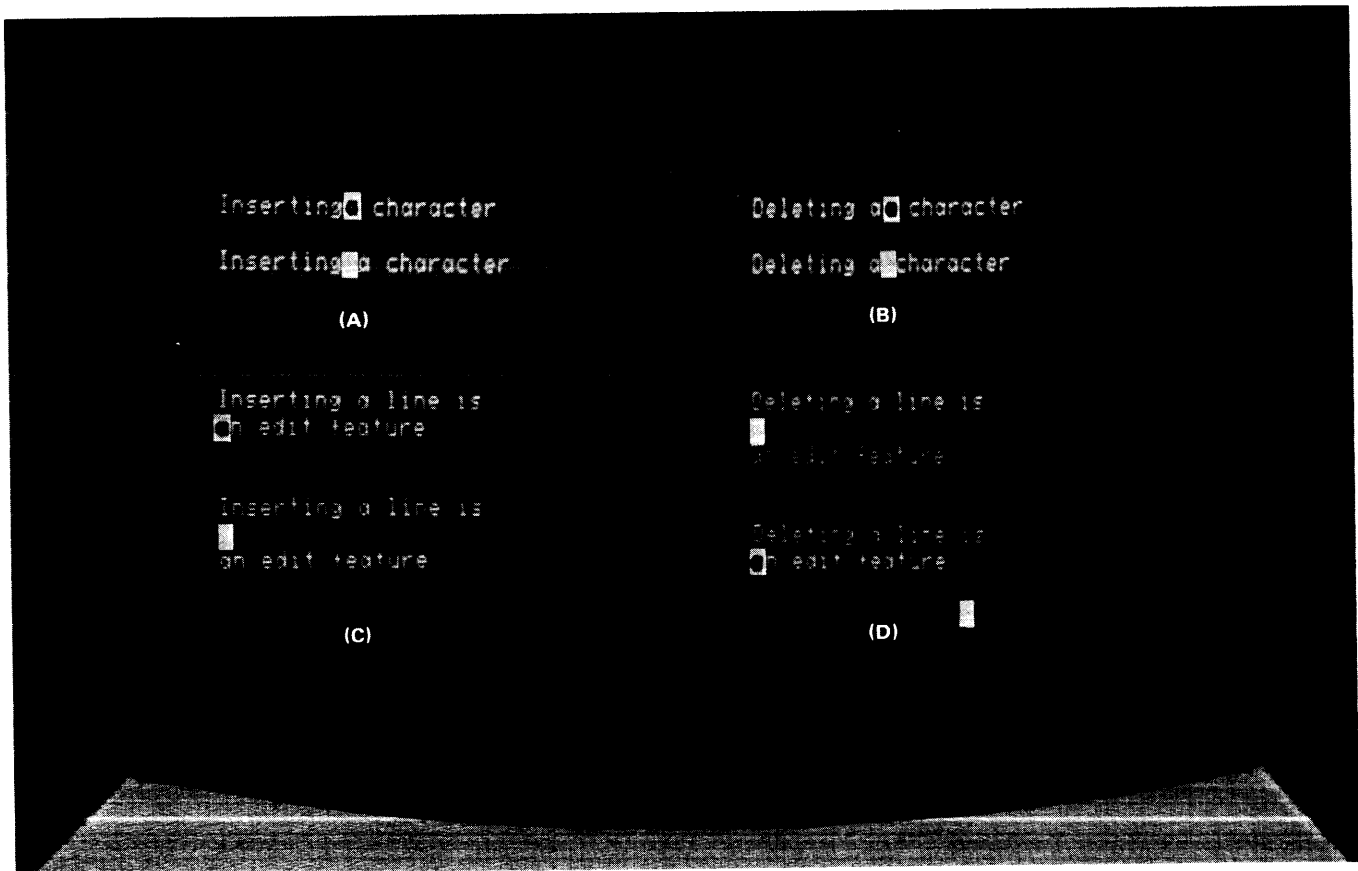

Fig. 1-14. Display mock-up of edit functions.
Fig. 1-14 shows an example of text that has been displayed. However, it needs to be edited before being entered to the computer (typing errors can be corrected by simply typing over the error). The Insert and Delete functions are performed as follows:
To insert a character, position the cursor where the character is to be inserted, then press the INS C key. Fig. 1-14 (A) illustrates this operation. Note that all data from the cursor location to the right margin shifts right one space, leaving a space at the cursor location.
To delete a character, position the cursor over the character to be deleted, then press the DEL C key. All data to the right of the cursor moves left to fill up the space left by the deleted character. Fig. 1-14 (B) illustrates this.
To insert a line, position the cursor to the position on the display where you wish the line to be inserted, then press the INS L and SHIFT keys. Note that the line where the cursor resides and all lines below the cursor move down one line. Fig. 1-14 (C) illustrates this.
To delete a line, position the cursor to the position on the display where you wish the line to be deleted, then press the DEL L and SHIFT keys. Note that the line where the cursor resides is erased and replaced with the line immediately below. All other lines below the cursor also move up one line. Fig. 1-14 (D) illustrates this.